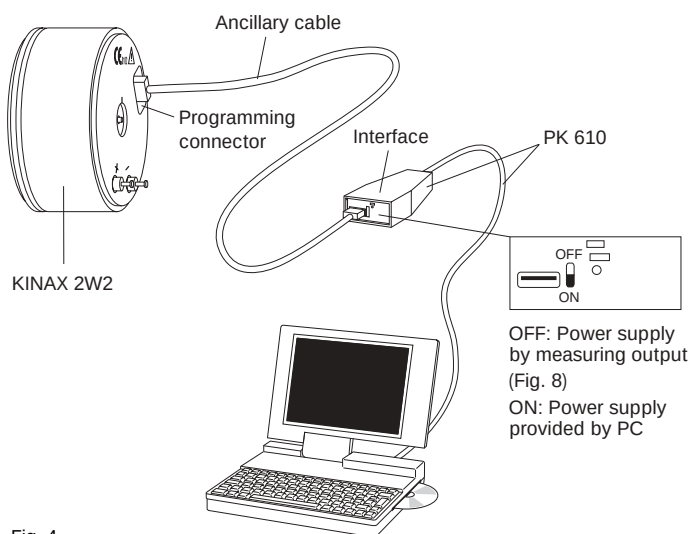

Fig. 4
Angular position transmitters of the KINAX 2W2 range do not require a mechanical zero position mark (however, this is made if required by the customer). After mounting, the transmitter can be moved to any position and configured using the 2W2 software. A power supply connection to the KINAX 2W2 is not required in order to use the 2W2 configuration software (Fig. 4; AUX switch on the PK 610 in the ON position).
1. Mount the angular position transmitter and mechanically connect it to the object to be measured. Connect the KINAX 2W2 to the programming device according to Fig. 4. Start the 2W2 configuration software. If necessary, configure the device with the required measuring range data.
1. Put the transmitter into operation and connect the programming device according to Fig. 4. (AUX switch on the PK 610 in the OFF position).